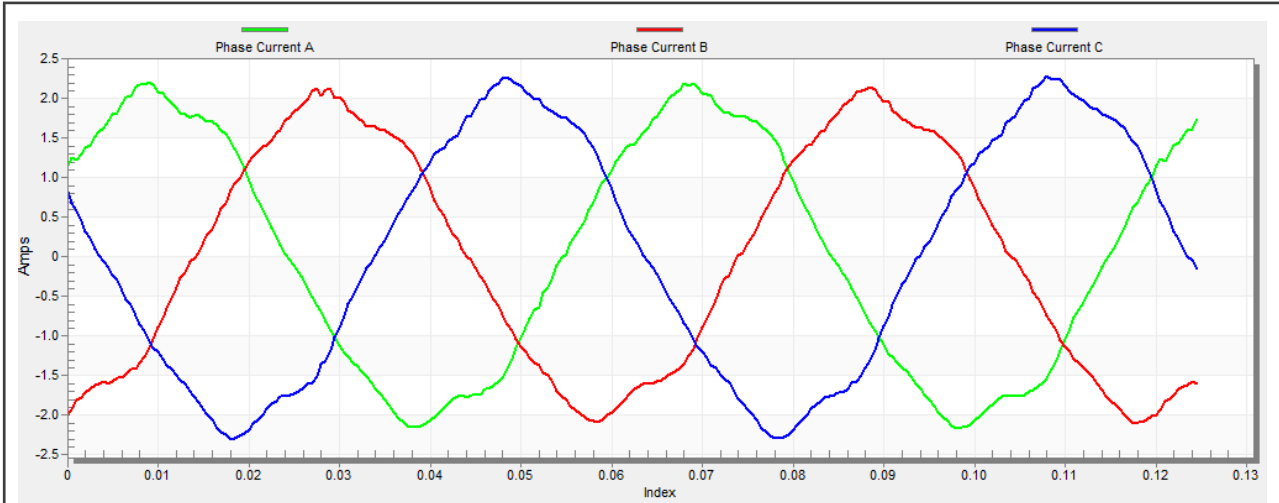

Figure 25. Phase currents
- The optimal ratio for the V/Hz profile can be found by changing the V/Hz factor directly using the "M1 V/Hz factor" variable. The shape of the motor currents should be close to a sinusoidal shape (Figure 25). Use the following equation for calculation V/Hz factor: